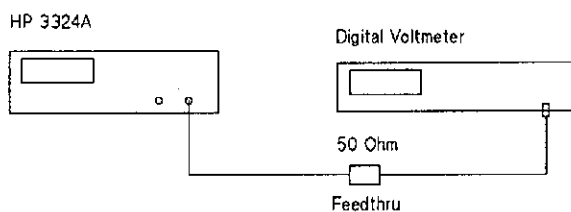

Figure 12-8. DC Offset Test Set-Up
1. Connect the equipment as shown in Figure 12-8. Set the voltmeter to measure DC voltage.